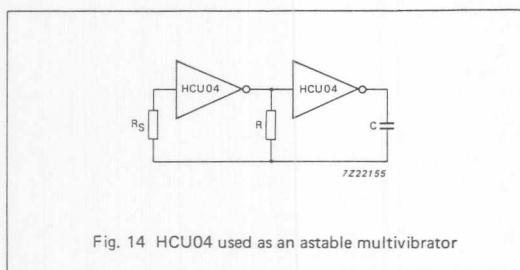

Fig. 14 HCU04 used as an astable multivibrator
- Astable multivibrator (see Fig. 14)
Note to Fig. 14